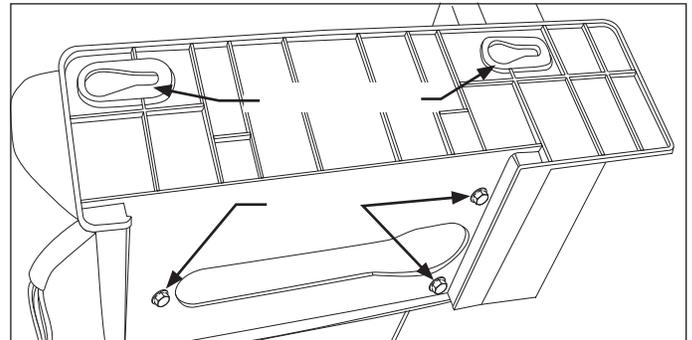

Figure 6-96.
7. The ice maker will then slide forward to allow the shoulder screws in the liner to pass through the keyhole slots in the mounting plate. (See Figure 6-96)
8. The mounting plate is removed from the ice maker by extracting the three screws from the bottom of the assembly. (See Figure 6-96)